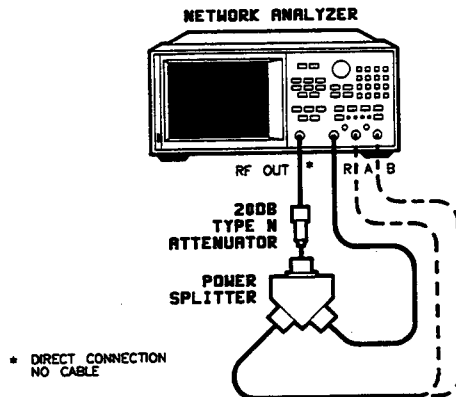

Figure 1. Operator's Check Setup
3. At the prompt, connect the equipment as shown in Figure 1, with power to inputs R and A. Press **[CONTINUE]** as prompted until the CRT displays PASS or FAIL.